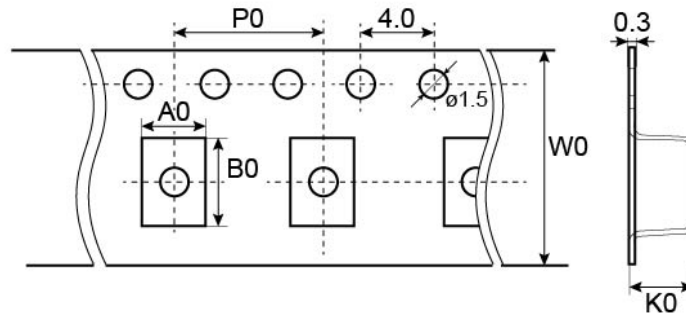

Figure 7 - Tape drawing
(1) Other film frame carrier are possible on request
(2) Au = TiWAu(0.3µm) / Au (3µm)
(3) Refer to Figure 7
(4) missing capacitors can reach 0.5%